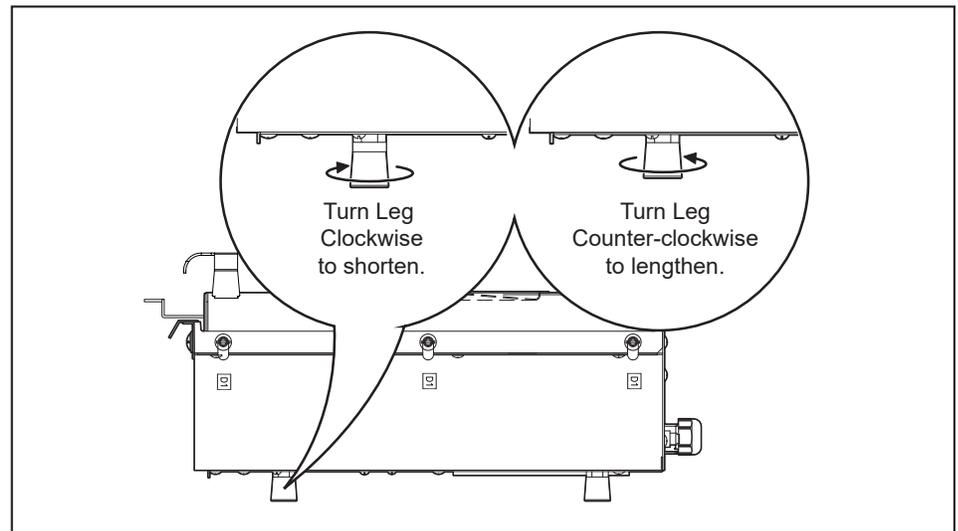

Figure 7. Level Unit
1. Level unit - adjust feet if necessary. The unit must be level before use. Before using the unit, adjust the legs of the unit as needed and use a level. If a level is not available, pour a small amount of water directly onto the center of the cool grill surface. The water should pool in the middle and not drain toward a certain section of the unit. Make adjustments as required. Turn legs clockwise to shorten or counter-clockwise to lengthen. See Figure 7 (Side view of unit).